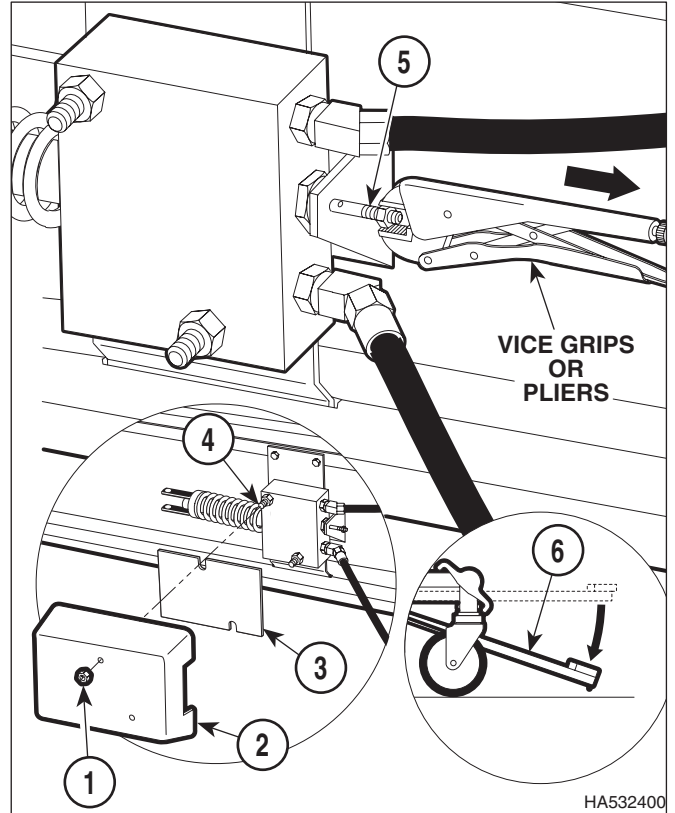

Figure 4-6. Purge Air From Hydraulic System
- (1) Remove lower cover (Refer to para 4.2).
- (2) Remove two nuts (1, Figure 4-6), pump cover (2), and pad (3) from two bolts (4).